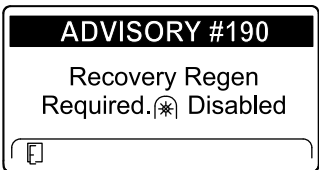

Figure 56
- Recovery regeneration required—power takeoff disabled ADVISORY #190 (Figure 56)